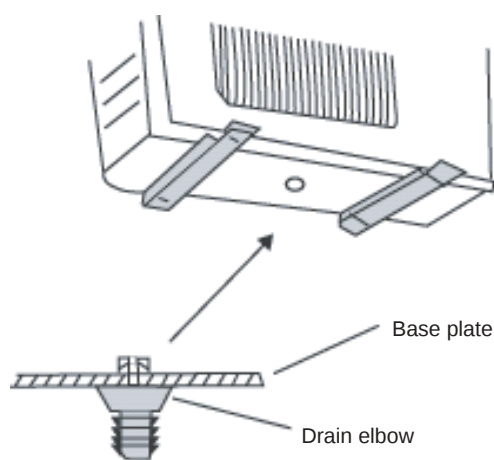

Fig.11-8
- Align the center charging flexible tube which is on the vacuum gauge with the low(Lo)pressure port, then connect to the fluorine charging nuzzle. (As shown in Fig.11-8)